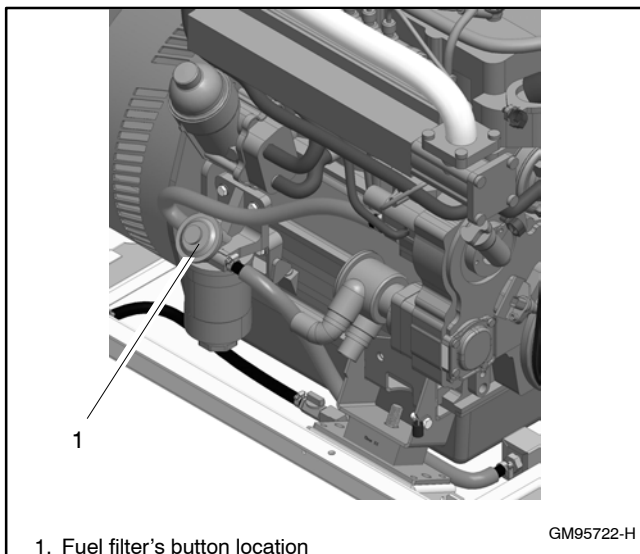

Figure 5-2 Fuel Filter's Button
12. **Bleed Procedure.** Push repeatedly the button on the fuel filter support to fill and bleed the fuel system. See Figure 5-2.